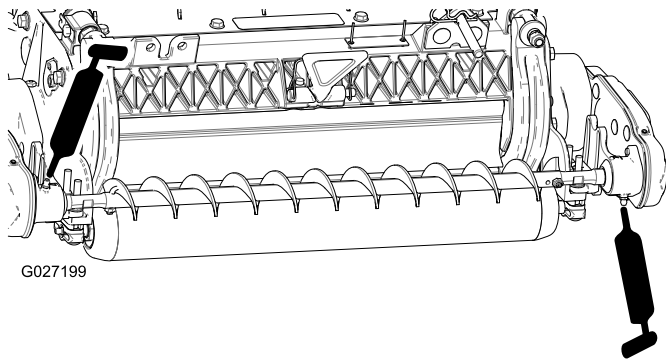

Figure 17
3. Lubricate the grease fittings on each of the roller brush bearing housings with No. 2 lithium grease (Figure 17).